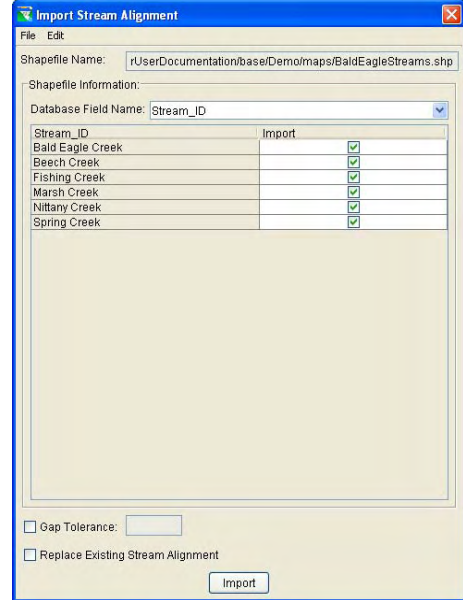

Figure 5.23 Import Stream Alignment
4. The **Import Stream Alignment** dialog box (Figure 5.23) will open.
7. Once the correct shapefile has been chosen, the required attribute is the name of each stream. The program automatically searches for a database field name of **Stream_ID**. If there is not a database field name of **Stream_ID**, then in the **Database Field Name** list, you must select the database field name that contains the names of each stream. In the example shown in Figure 5.23, for the shapefile *BaldEagleStreams.shp*, the database field name is *Stream_ID*.
9. **Gap Tolerance** (Figure 5.23) is used to connect stream elements that have a gap between the end point and the junction with another stream. By default, the **Gap Tolerance** is set to zero (0.0), so ResSim can connect streams to other streams. If you click **Gap Tolerance**, then you need to enter a value larger than zero in the **Gap Tolerance** box, which will allow ResSim to connect streams that might have a larger gap between them.
11. Once everything is set, click **Import**. The stream alignment will be automatically drawn in the display area. From the **File** menu, choose **Close** and the **Import Stream Alignment** dialog box (Figure 5.23) will close.